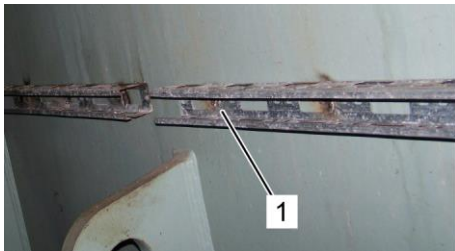

Fig.74: Cable trays on engine block
1. Lay cables through cable trays (Fig.74/1) to the Line Converter box.